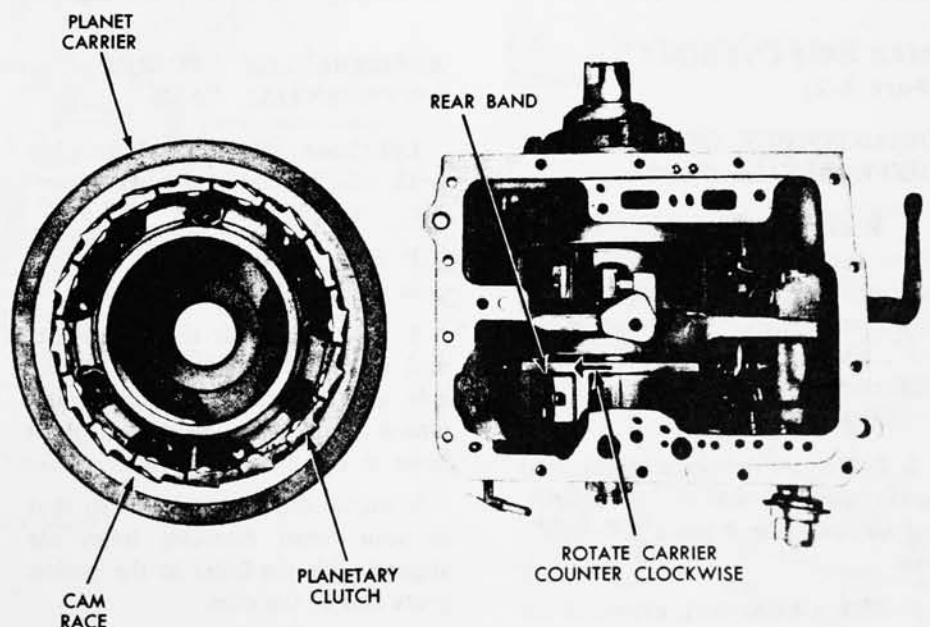

FIG. 21—Planetary Clutch Installed in Carrier
4. Install the planetary clutch in the carrier (Fig. 21).